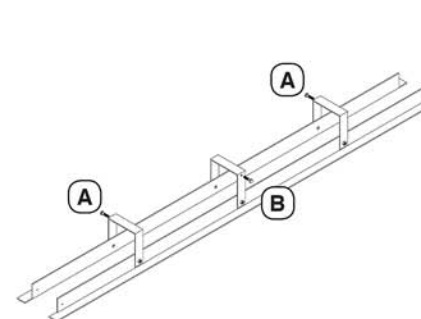
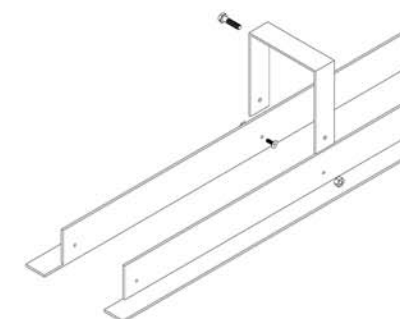

Figure 3a
Figure 3b
Attach the 3 U shaped brackets to the two L flush brackets (A). Use the screws provided and the pre-drilled holes (see fig 3a). Please ensure the correct positioning of the upper central screws (see fig 3b).